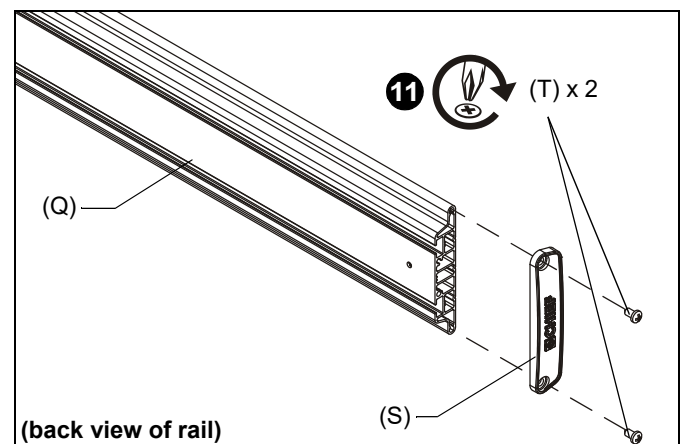

Figure 23
11. Attach one remaining end cap (S) with two 1/4-20 x 1/2" Phillips head screws (T) to end of mounting rail (Q). (See Figure 23)